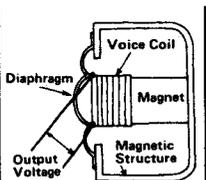

FIGURE 2—Dynamic
**Dynamic Generating Elements.** The diaphragm of a dynamic microphone is attached directly to a coil of wire (voice coil) located close to a magnet. When the voice coil vibrates, a voltage is produced. A dynamic microphone is shown in Figure 2.